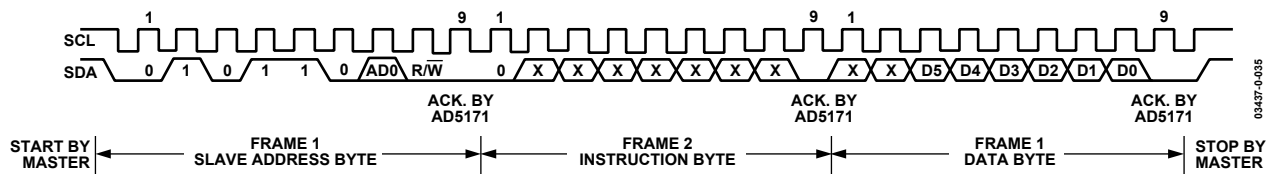
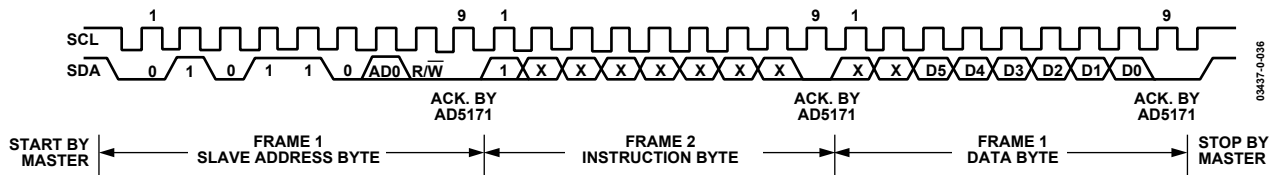
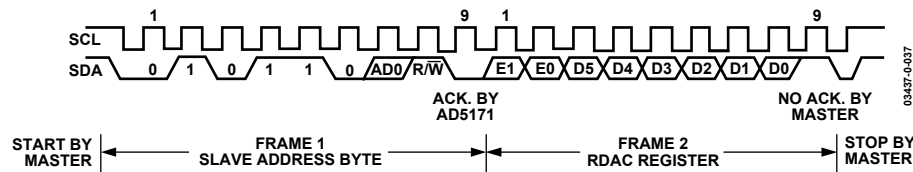

Figure 36. Writing to the RDAC Register
Figure 37. Activating One-Time Programming
Figure 38. Reading Data from RDAC Register
For users who prefer to use external controllers, the AD5171 can be controlled via an I²C compatible serial bus and is connected to this bus as slave device. Referring to Figure 36, Figure 37, and Figure 38, the 2-wire I²C serial bus protocol operates as follows:
1. The master initiates data transfer by establishing a start condition, which is when SDA from high-to-low while SCL is high (Figure 36 and Figure 37). The following byte is the slave address byte, which consists of the 6 MSBs as a slave
2. The write operation contains one more instruction byte than the read operation. The instruction byte in the write mode follows the slave address byte. The MSB of the instruction byte labeled T is the one-time programming bit. After acknowledging the instruction byte, the last byte in the write mode is the data byte. Data is transmitted over the serial bus in sequences of nine clock pulses (eight data bits followed by an Acknowledge bit). The transitions on the SDA line must occur during the low period of SCL and remain stable during the high period of SCL (Figure 36).
3. In the read mode, the data byte follows immediately after the acknowledgment of the slave address byte. Data is transmitted over the serial bus in sequences of nine clock pulses (slight difference with the write mode; there are eight data bits followed by a No Acknowledge bit). Similarly, the transitions on the SDA line must occur during the low period of SCL and remain stable during the high period of SCL (Figure 38).
4. When all data bits have been read or written, a stop condition is established by the master. A stop condition is defined as a low-to-high transition on the SDA line while SCL is high. In the write mode, the master will pull the SDA line high during the 10th clock pulse to establish a stop condition (Figure 36 and Figure 37). In the read mode, the master will issue a No Acknowledge for the 9th clock pulse, i.e., the SDA line remains high. The master will then bring the SDA line low before the 10th clock pulse, which goes high to establish a stop condition (Figure 38).